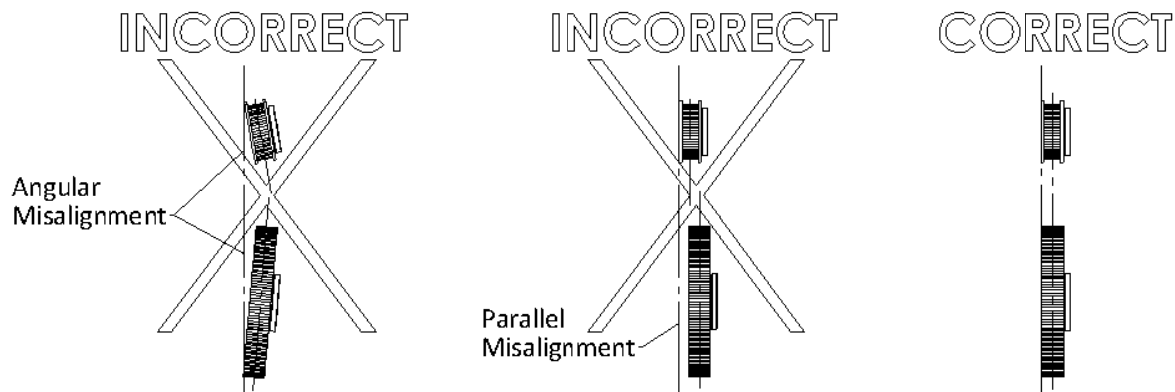

Figure 9: Alignment tool contact illustration (left view)
30. Note the surface contact between the alignment tool or straight edge and the backside surfaces of the sprockets. Adjustments should be made as needed until the tool makes even contact with the sprockets as shown below in the Figure 9 illustration labeled "CORRECT".